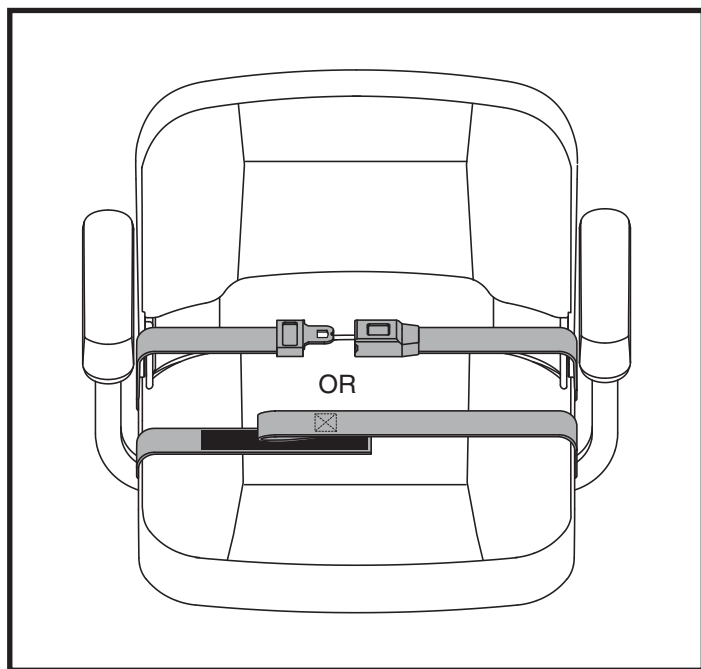

Figure 22. Positioning Belt - Metal Tab Style or Reusable Hook and Loop Fastener Style
1. Insert the metal tab on the right side of the belt into the plastic housing on the opposite strap until you hear a “click.” **See figure 22.**
1. Align the two sides of the belt placing the looped-end side directly above the coarser side (“hook”) of the opposite belt. Press firmly together to fasten. **See figure 22.**